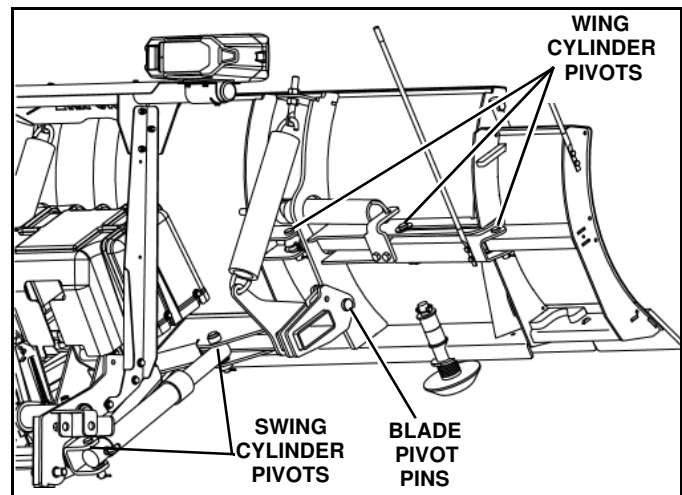
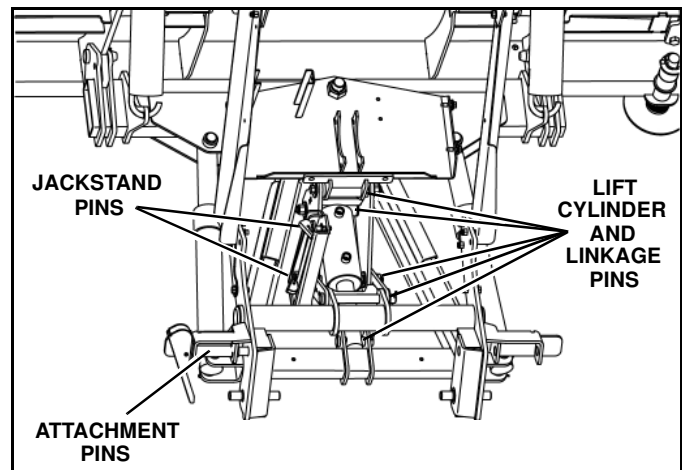

Figure 1-31
Figure 1-32
3. Apply a small amount of light oil to: attachment pin and handle assemblies, pivot pins between the blade and swing frame, and pivot pins at lift, swing and wing cylinders on both sides of plow. Also lubricate jackstand pins. (See Figure 1-31 and Figure 1-32).